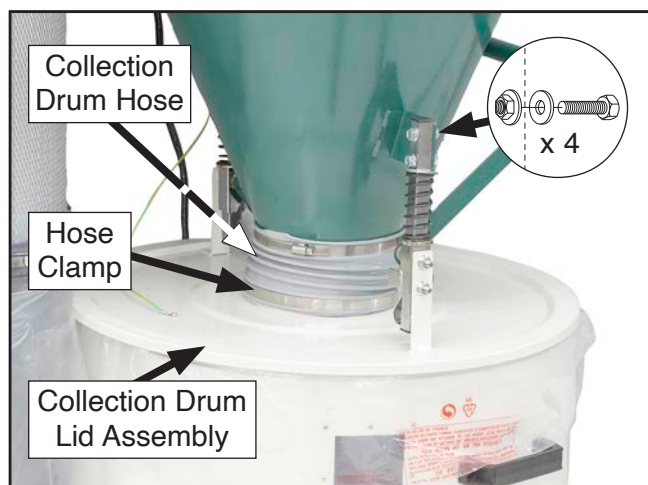

Figure 23. Collection lid and lock handle assembly attached to cyclone funnel.
16. Connect collection drum hose to collection drum lid assembly and secure with (1) hose clamp (see **Figure 23**).
17. Fasten collection drum lid assembly to cyclone funnel using (4) pre-installed hex bolts, hex nuts, and flat washers, as shown in **Figure 23**.